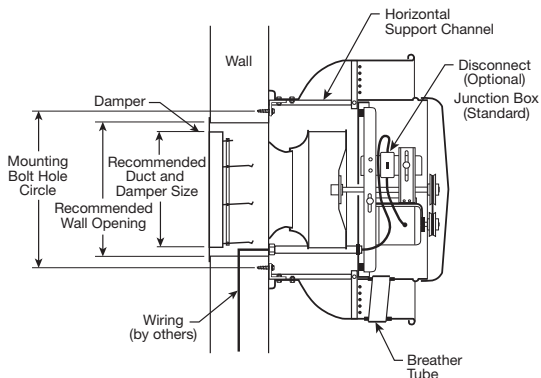

Figure 5
8. Re-attach ventilator to the mounting plate. The unit should be aligned with the breather tube pointing down. See Figure 5.
9. Guide the electrical chase through the hole in the motor compartment. The horizontal support channels should slide over the mounting angle clips on the mounting plate until the holes in the windband and clips are aligned. Replace fasteners removed in Step 1 and tighten. See Figure 5.